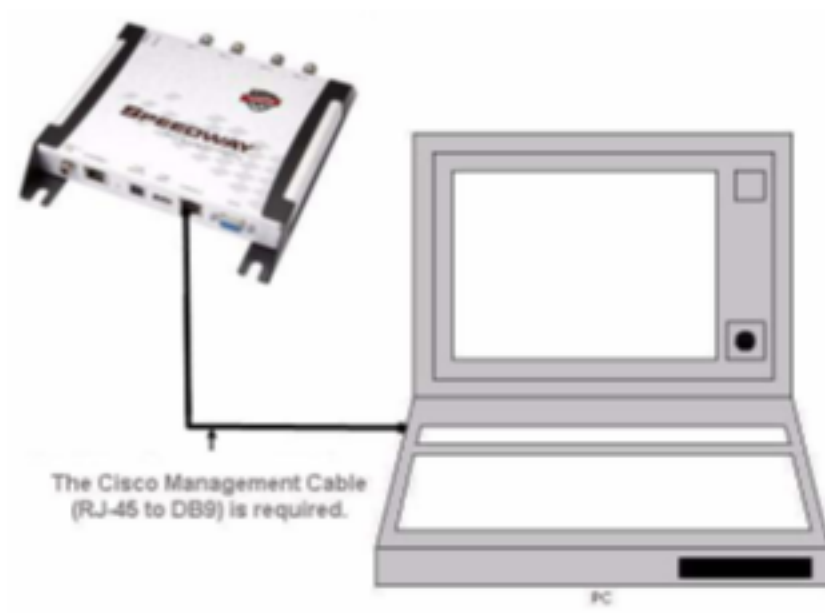

Figure 5.5 Speedway Serial Connection
2. Use a Cisco style Console cable RJ-45 to DB9, Impinj part number IPJA4000000, to connect your PC's valid/active COM port to the serial port on the Reader, as shown in Figure 5.5.